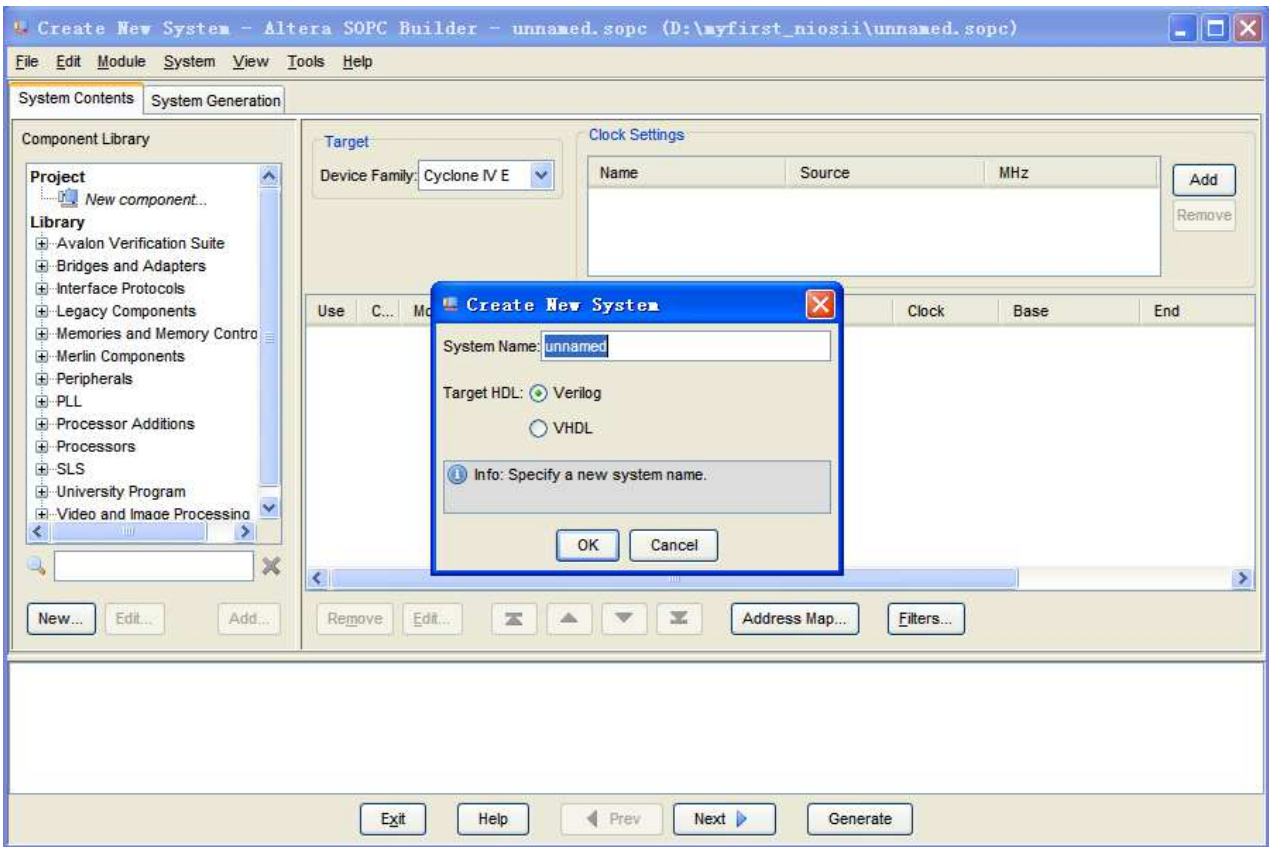

Figure 7-10 Create New SOPC System [0]
6. Rename System Name as shown in Figure 7-10 and Figure 7-11. Click **OK** and your will see a window as shown in Figure 7-12.